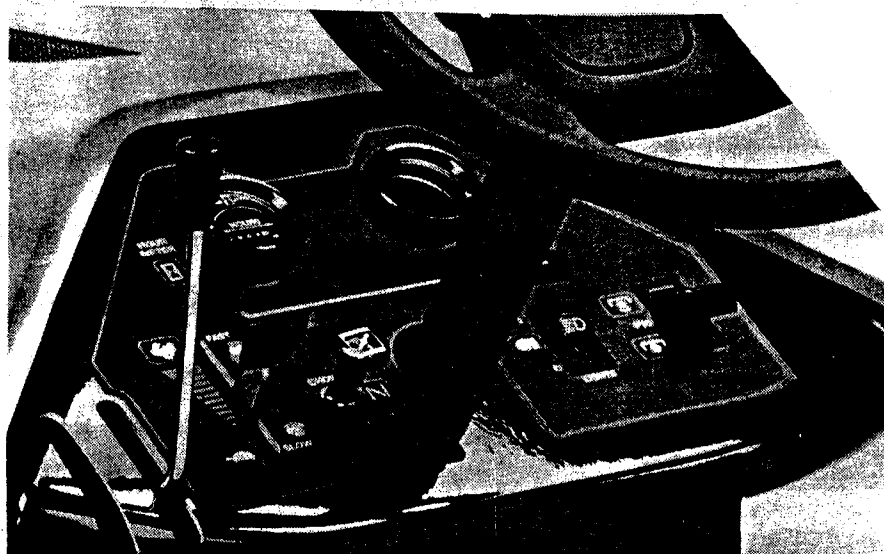

Figure 1. Basic controls.
1. **ADJUSTABLE SEAT** – moves forward or back, up to 3" (see Figure 1.).
2. **STEERING WHEEL** – controls the front wheels of the tractor for steering (see Figure 1.).
3. **HEADLIGHT SWITCH** – controls the tractor's headlights (see Figure 1.).
4. **IGNITION SWITCH** – starts and stops the engine. This is a 3-position, key-actuated switch (see Figure 1.).
5. **CHOKE KNOB** – controls the fuel-air mixture in the engine's carburetor (see Figure 1.).
6. **THROTTLE LEVER** – controls the amount of fuel being fed into the engine (see Figure 1.).
7. **FUEL CAP and GAUGE** – shows fuel level and unscrews for dispensing of fuel into tank (see Figure 1.). Use only unleaded, minimum octane 87 gasoline.
8. **MOTION CONTROL FOOT PEDAL** – controls the direction (forward/reverse) and speed of the tractor (see Figure 1.).
9. **THREE BRAKE PEDALS** – control the brakes (see Figure 1.). A single brake pedal is located on the right-hand side and two brake pedals are located on the left-hand side of the tractor.
10. **PARKING BRAKE LEVER** – latches the brake to lock the rear wheels (see Figure 1.).